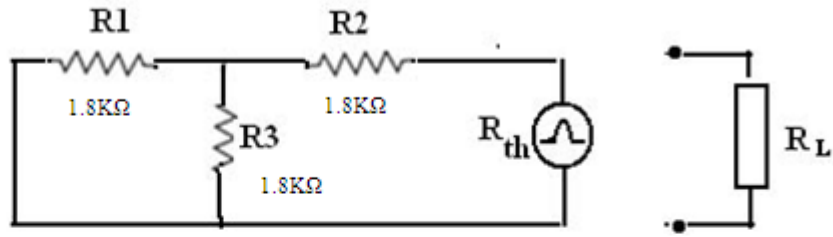

Fig 2
2. Connect the circuit as shown in fig.2 and note the Norton's resistance  $R_N$  by means of a multimeter.